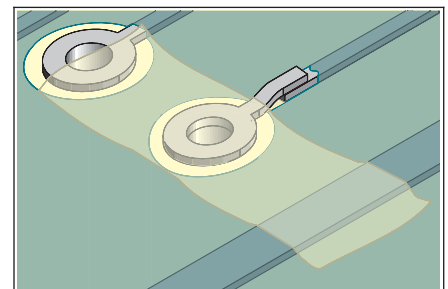

Figure 4 Place the new land in place using tape.
11. Place a piece of Polyimide tape over the top surface of the land. Place the new land into position on the printed circuit board surface using the tape to aid in alignment. (See Figure 4.)